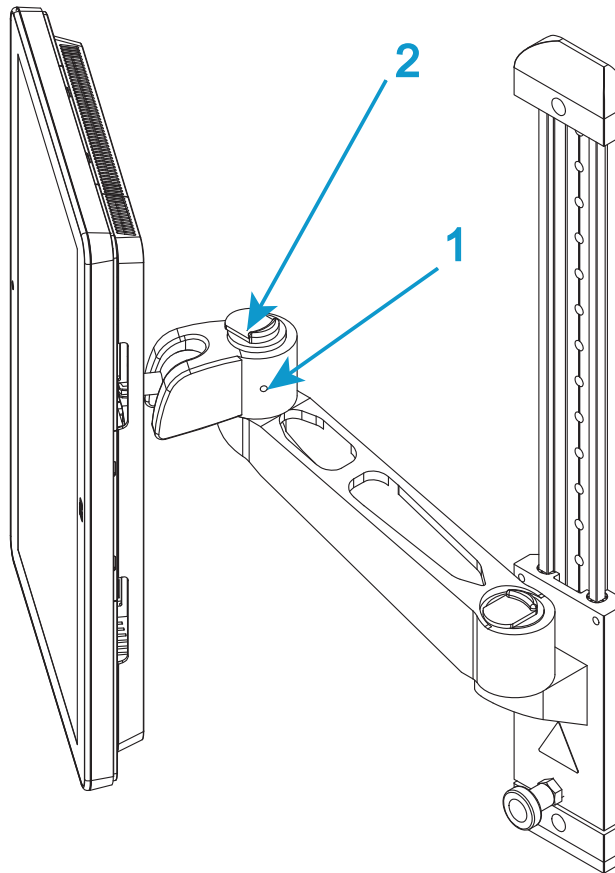
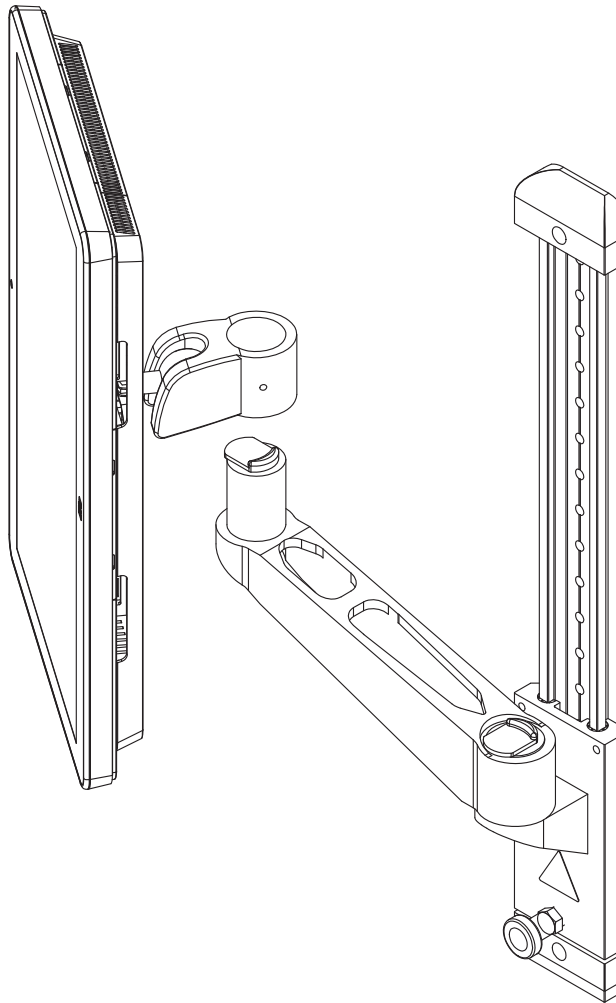

Figure 12. Mounting arm
Figure 13. Lift to remove
3. If necessary, loosen the set screw on the side of the “elbow” on the mounting arm (1 in Figure 12 on page 49).
4. Operate the release mechanism on top of the “elbow” (2 in Figure 12 on page 49) and lift the Bluehill[®] Operator Dashboard clear of the mounting arm (Figure 13 on page 50).